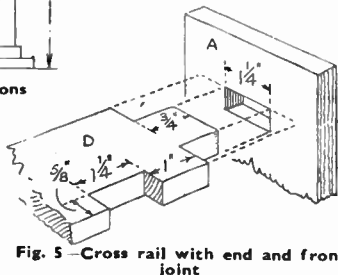

Fig. 5—Cross rail with end and front joint
The two rails (D) are next prepared and these are 21ins. long by 2ins. wide by ½in. thick. This length allows for a ¾in. tenon each end, as seen in the detail Fig. 5. At one end of each rail, too, there must be cut a recess, as shown in Fig. 5. This allows the upright rail (E) of the pivoted under frame, to close